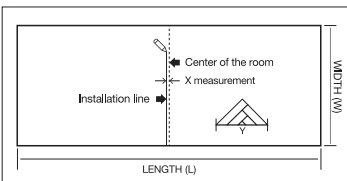

Figure 8
- Start from the center of the room. Offset the line using the X measurement as the distance and snap a chalk line (Figure 8).